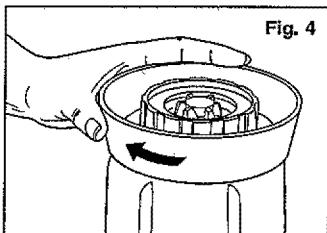
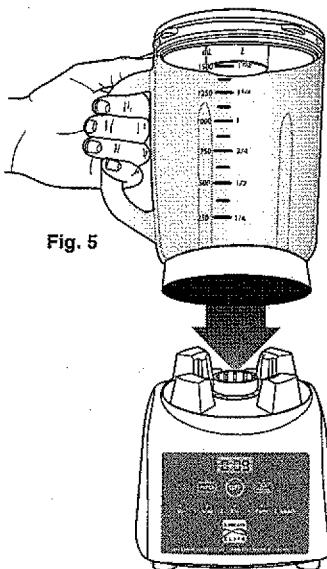

Fig. 4
Fig. 5
4. Twist collar onto jar. Be sure to engage threads properly and securely [Fig.4]. Turn assembled jar right side up [Fig.5].